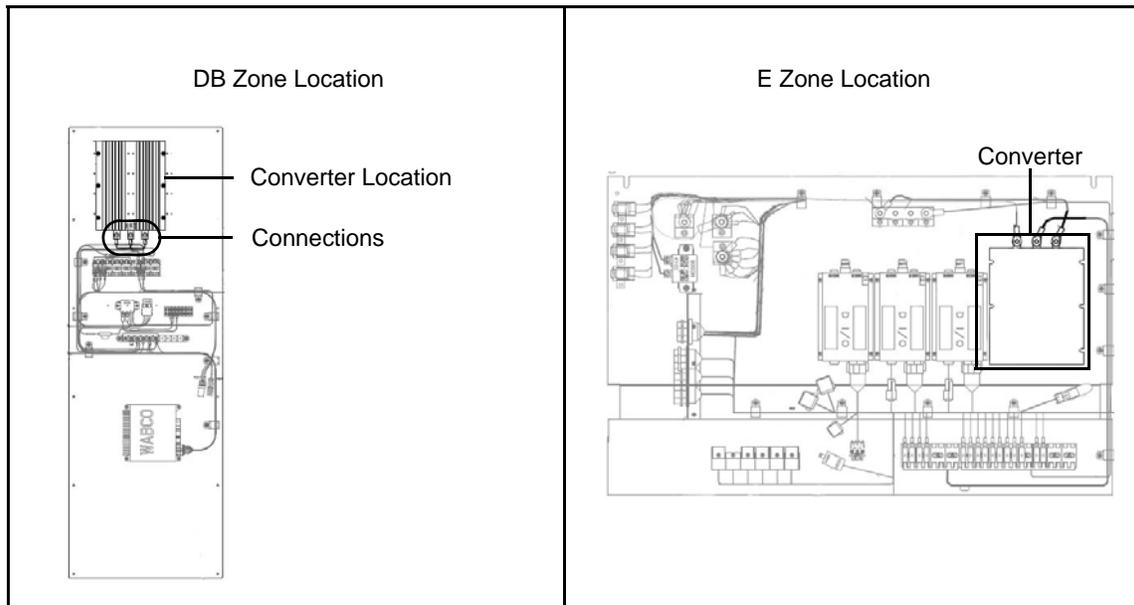

Figure 1-6 Orion VII Sure Power Converter Locations
2. Install converter onto mounting area (See **Figure 1-6**) using the following replacement hardware: